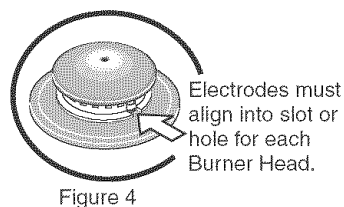
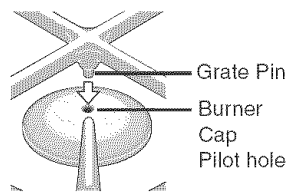

Figure 4
Figure 5
4. To replace Burner Heads & Caps, match the letters located under center of Burner Caps with the letters located inside Burner Head (See Figure 5). Place all Burner Heads & Caps on the cooktop while carefully aligning the Electrodes into slots or holes of the Burner Heads (Figure 4). Note: The Burner Heads should sit flat on Cooktop Burner Skirts.
5. Unpack Burner Grates. **NOTE:** Do not force End Burner Grates down on cooktop. Be careful to line up the 2 Grate Pins located on each of the 2 End Burner Grates into the Pilot holes located on top of the Burner Caps (See Figure 5). Position Burner Grates on cooktop and check that all the Burner Grate legs lie on the glass surface.